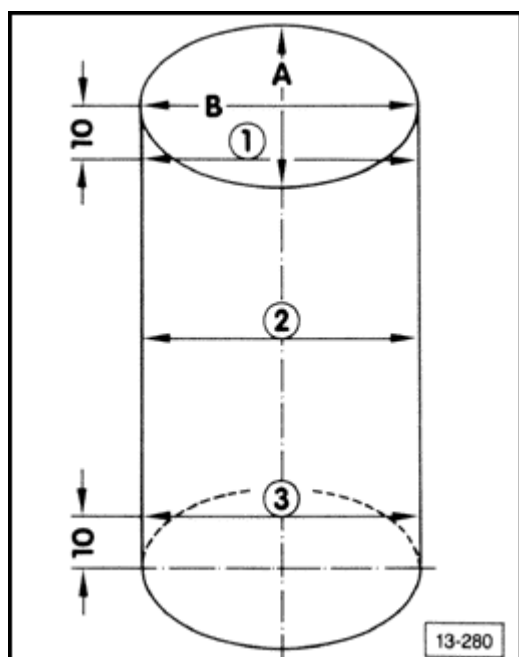

Fig. 4 Cylinder bore, measuring
- ♦ check cylinder bore, ⇒ Fig. 4